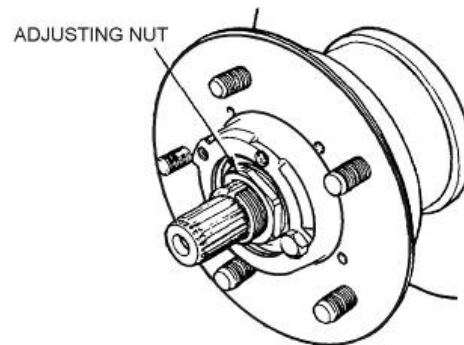

Figure 92 Hub Bearing Adjustment
- f. Spin the hub to settle the bearings and tighten the adjusting nut by hand until there is no end float (Figure 92).